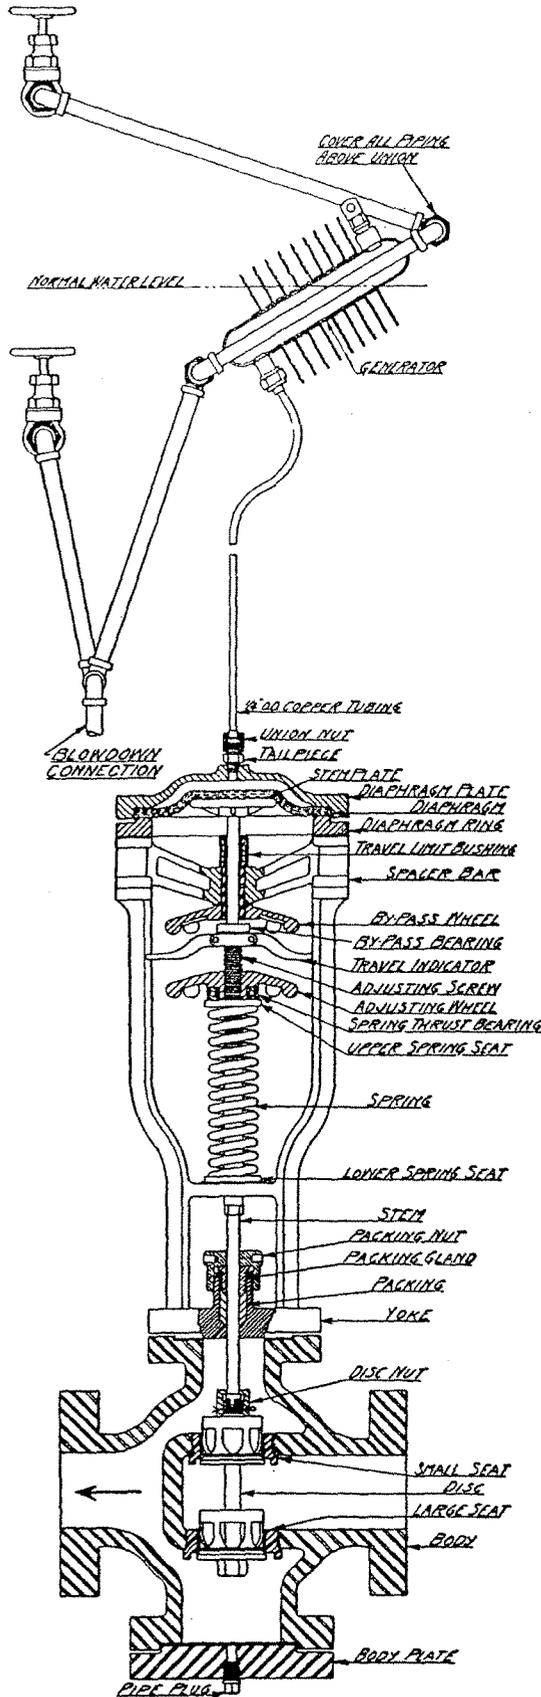

Fig. 332
3. In ordering repair parts, refer to the parts by name as shown in Fig. 332. Be sure to mention size and serial number of the regulator.
2. Install the valve so the flow is in the direction of the arrow shown in Fig. 332.
4. Cover all piping above the generator as shown in Fig. 332. Do not cover or paint the generator or any of the lower generator piping.